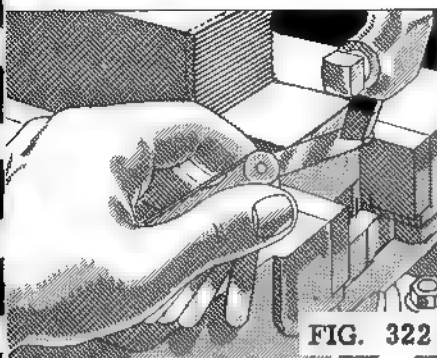
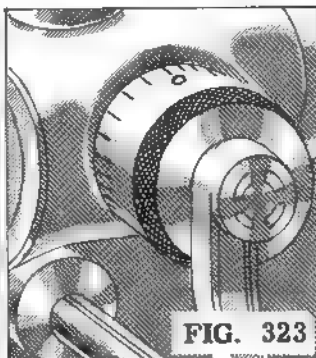
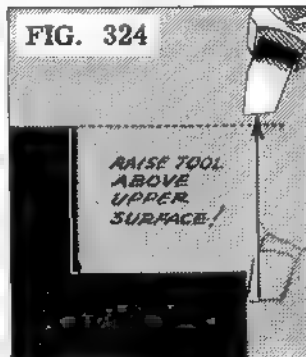

FIG. 322
FIG. 323
FIG. 324
17. Measure the distance from the end of the work to the shoulder whenever it must be maintained accurately by using the graduations on the micrometer collar of the cross-feed screw. Move the end of the work against the left side of the tool (Fig. 322), using a feeler between them. Set the micrometer collar to zero (Fig. 323). Raise the tool above the vertical surface (Fig. 324). Move the